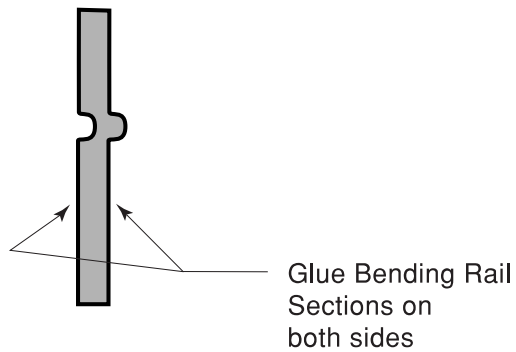

Fig. 6-3A
3. Using a glue applicator (such as a small paint roller), apply a thin layer of glue on all surfaces that will be bonded. Please note Fig. 6-3A here.